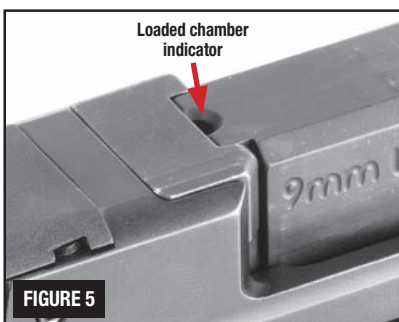

FIGURE 5
- This indicator can be observed by looking at the top of the slide/ejection port, (FIGURE 5) noting an opening at the rear of the barrel hood. By looking into this opening, you can observe whether or not a round is in the firearm's chamber. If a round is in the chamber, you should be able to see the actual cartridge rim through this opening.